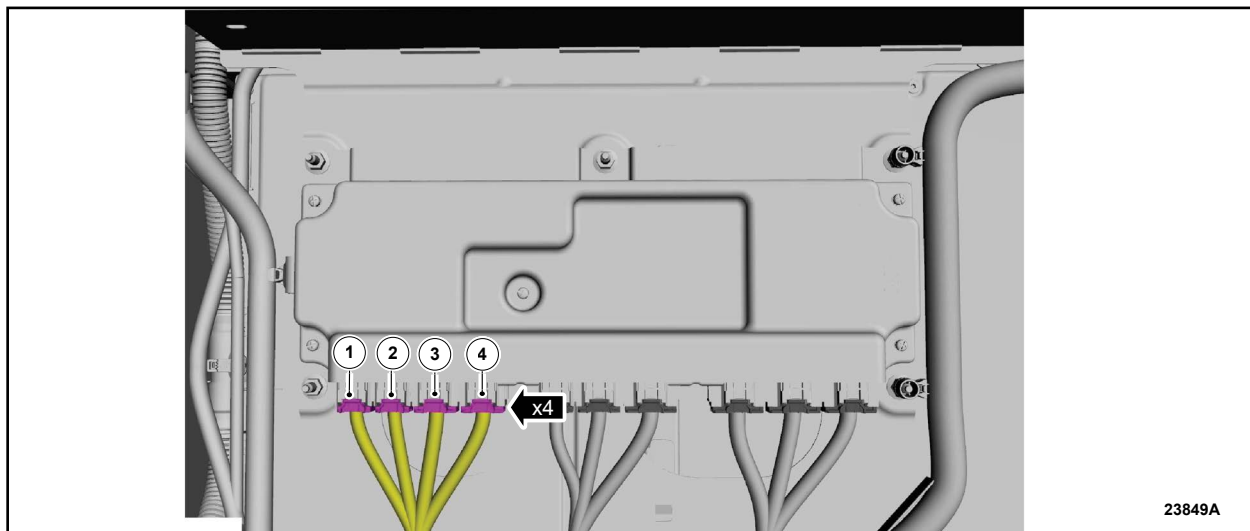

FIGURE 1
2. Disconnect the Battery Energy Control Module (BECM) electrical connectors in the sequence shown. See Figure 1.